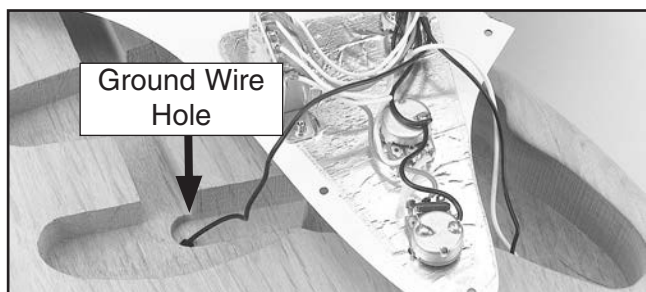

Figure 14. Ground wire hole.
- Push the thin black ground wire through the hole that leads to the cavity in the back of the guitar shown in **Figure 14**.